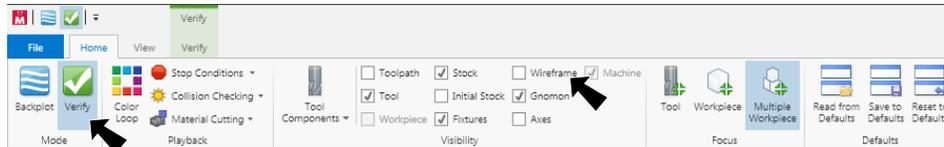

Fig. 21
Step 3. Click **Verify**  in Mastercam Simulator home ribbon bar to select Verify mode and uncheck **Wireframe**, **Fig. 21**.